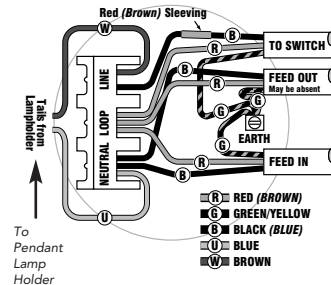

Figure 3a - Typical wiring circuit with looping requirement
8. Coloured sleeves are provided for use as follows: - The Red or Brown sleeve should be placed over the live or switched live cable for identification purposes where the cable used is black, as shown in Figures 3a & 3b.
9. Figure 3a & 3b show typical wiring diagrams for conventional lighting circuits. 3a having a looping requirement, 3b when using junction boxes for termination when looping is not required.
10. Ensure each cable is connected to the appropriate terminal, as shown in the typical diagrams - Figures 3a or 3b.
17. Make the connections from the lamp holder to the rose as shown in Figures 3a & 3b and tighten the terminal screws securely. Note: the colour codes of these cables will be brown and blue in all cases.
5. Make the connections to the lamp holder as shown in Figures 3a & 3b and tighten terminal screws securely.